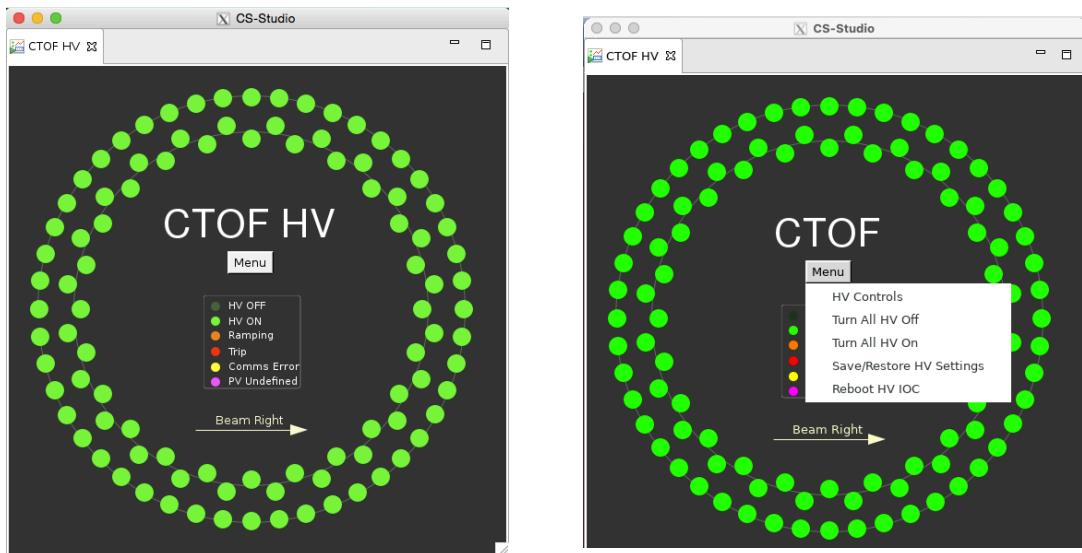
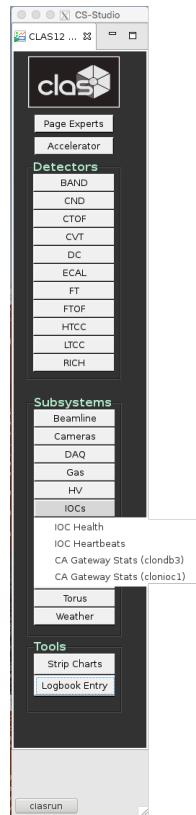
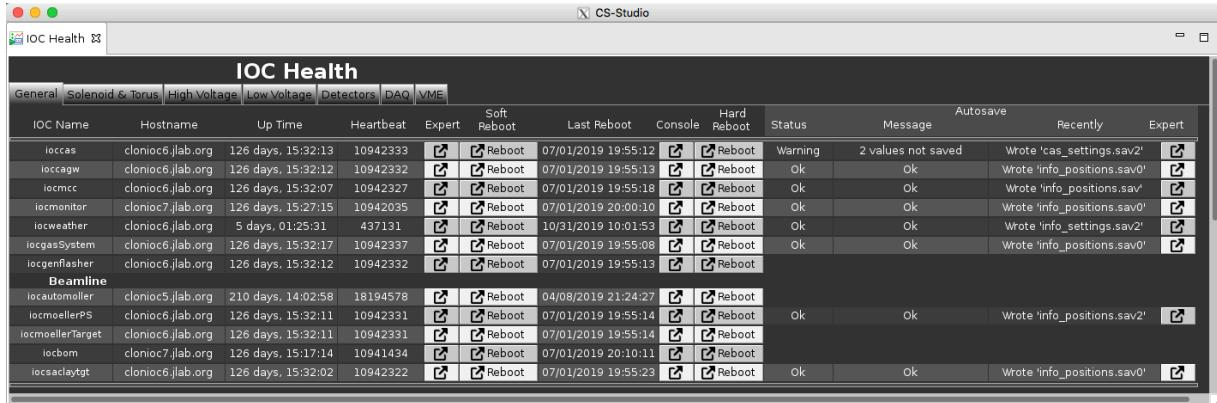
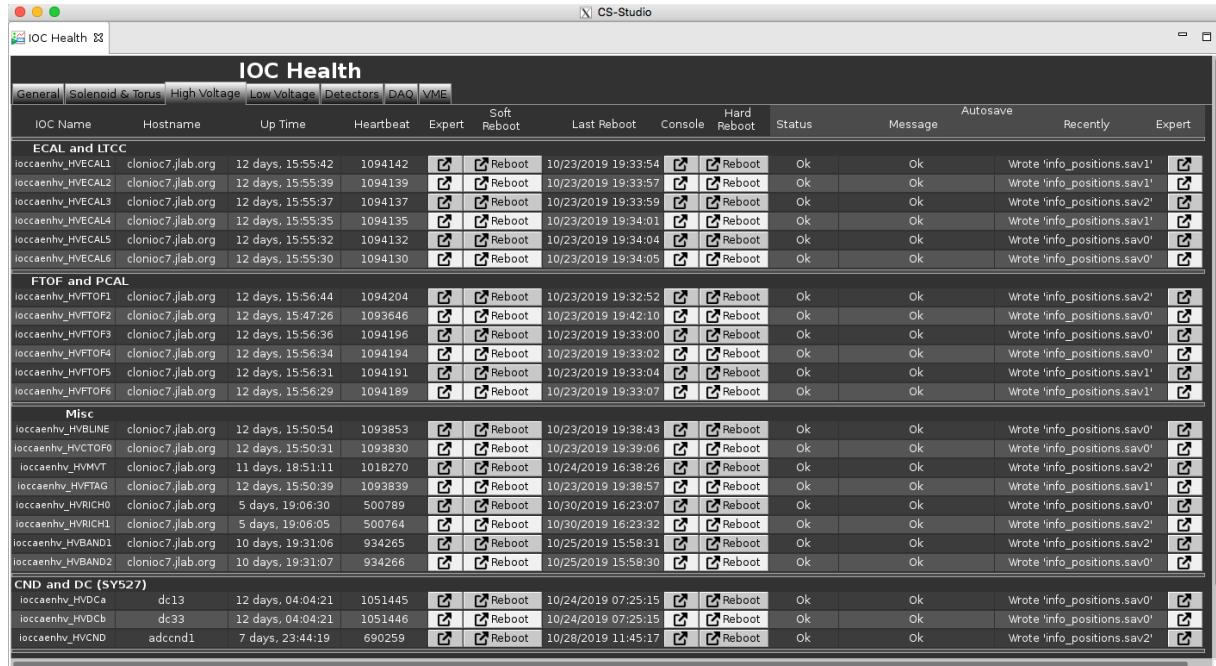

Figure 8: CTOF HV display and control interface. The right figure shows the “Menu” options available.
Figure 13: Sub-menu on the primary Slow Controls interface to reboot the IOCs.
Figure 14: IOC health screen for access to all Hall B IOCs.
Figure 15: IOC health screen where individual IOCs that control the HV mainframes can be rebooted.
To bring up the CTOF HV controls, click on the “CTOF” button on the subsystem list. This pops up a sub-menu of all Slow Controls subprograms for the CTOF system (see Fig. 7(right)). Clicking the mouse on the “CTOF HV” option brings up the HV control interface for the CTOF system as shown in Fig. 8(left). This interface allows for HV operations at two functionality levels:
The HV Control Interface screen (see Fig. 8) also provides a color key to indicate the channel status:
1. To turn the HV for all system PMTs on or off. This is accomplished by clicking the “Menu” button in the middle of the display. This pops up a sub-menu with the relevant options “Turn All Off” or “Turn All On” (see Fig. 8(right)).
If the “Controls” option shown in Fig. 8(right) is selected, a “novice” window is opened as shown in Fig. 11. This window shows the monitored channel voltages and currents (V_{mon} (V) and I_{mon} (μ A)), the channel statuses (OFF, ON), and the set channel voltages and currents (V_{set} (V) and I_{set} (μ A)). If desired, shift workers can toggle the HV settings for single channels on or off through this interface.
If there is a controls problem indicated by the appearance of yellow or magenta channels in Fig. 8, which typically appears for all CTOF PMTs, the usual cause is an issue of communication between the IOC computer and the HV mainframe. To reboot the IOC, click on the “IOCs” button on the Slow Controls panel within the “Subsystems” portion of the interface (see Fig. 7). Figure 13 shows the options that appear on the sub-menu that pops up. On this menu, select “IOC Health” to open the control window shown in Fig. 14. Clicking on the “High Voltage” tab along the top of the screen brings up the screen for the IOCs that control the HV mainframes as shown in Fig. 15. Click on the “Reboot” button for the HV supply HVCTOF0 (under the “Soft Reboot” column). The reboot will take less than two minutes to complete and the yellow or magenta communication problem channel indicators should all disappear. Note that the IOCs can be also rebooted through the CTOF channel control screen shown in Fig. 8(right). Click on the “Reboot HV IOC” button and answer “Yes” on the dialog box that comes up. If rebooting the IOC does not solve the communication problems, contact the Slow Controls system expert.